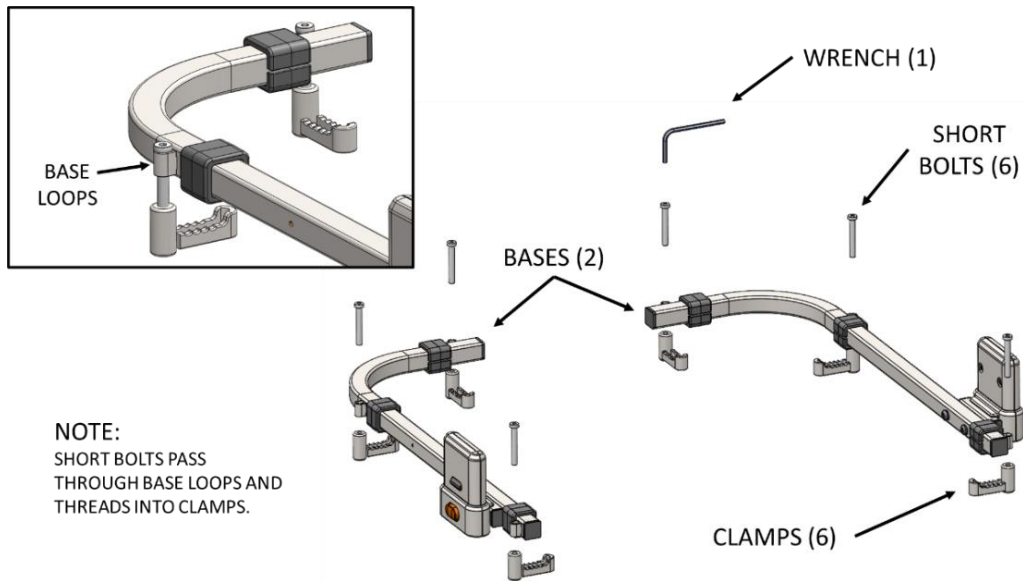

FIGURE 4
3. Insert the **SHORT BOLTS** through the **BASE LOOPS** and thread the **SHORT BOLTS** into the **CLAMPS** as shown in Figure 4.